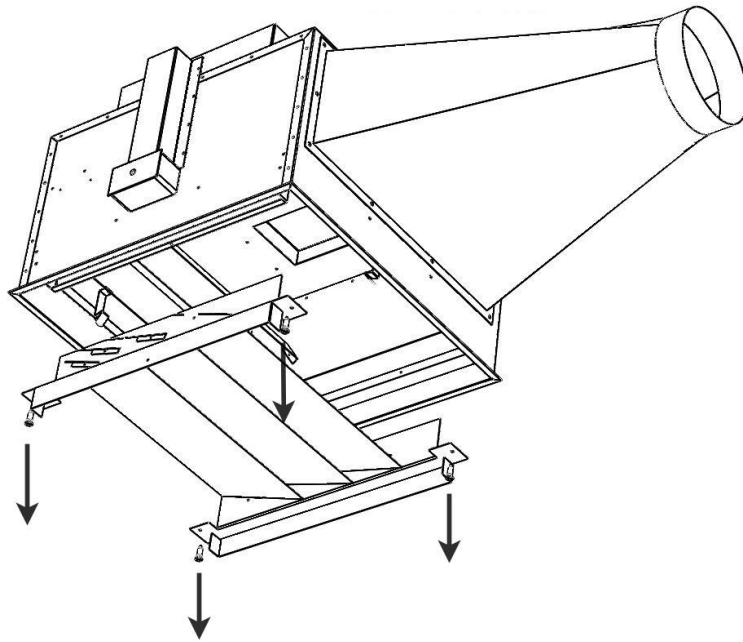

Figure 3. Remove the four screws holding the UVC Barrier in place, then slowly pull down the UVC Barrier
- c. Remove the four screws holding the UVC Barrier, then pull down the UVC Barrier (Figure 3).